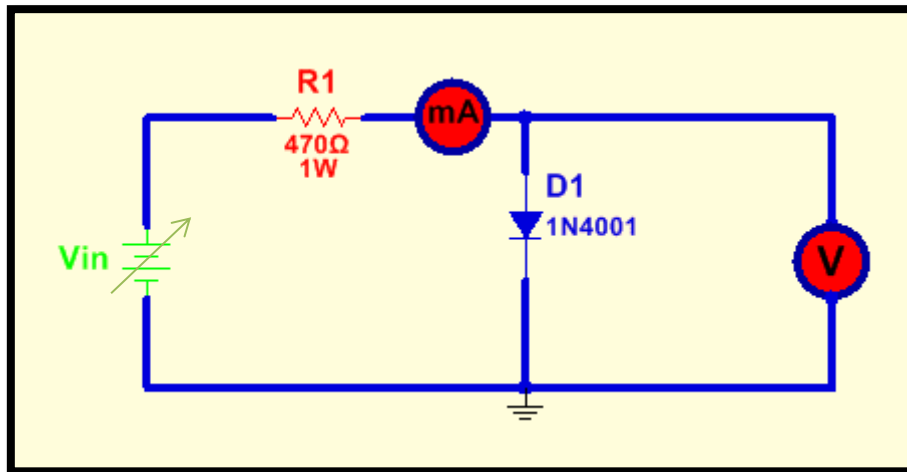

Figure 3: Diode Forward-Biased Circuit
1. Connect the diode circuit shown in Fig.3.